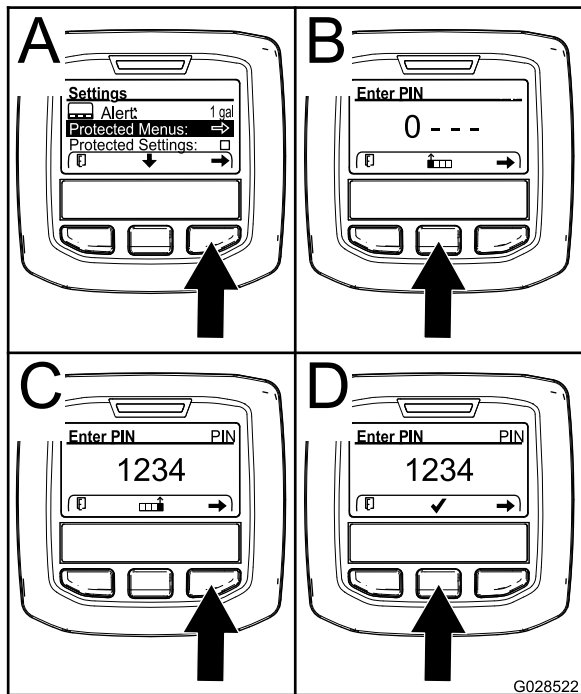

Figure 11
2. Press the right select button to select Protected Menus (A of Figure 11).
- Press the center selection button (B of Figure 11) to increase the numerical value (0 to 9).
- Press the right selection button (C of Figure 11) to move the cursor to the next numerical position to the right.
Note: The checkmark icon appears above the center selection button (D of Figure 11).
5. Press the center selection button (D of Figure 11) to enter the password.